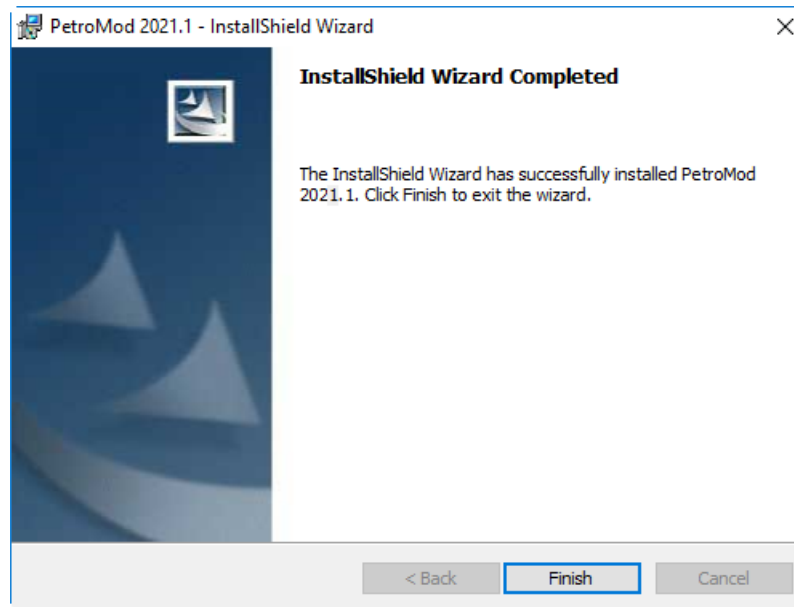

Fig. 3-6 Installation complete
- 7 Once the installation is complete the InstallShield Wizard will display the final dialog (Fig. 3-6). Click **Finish**.